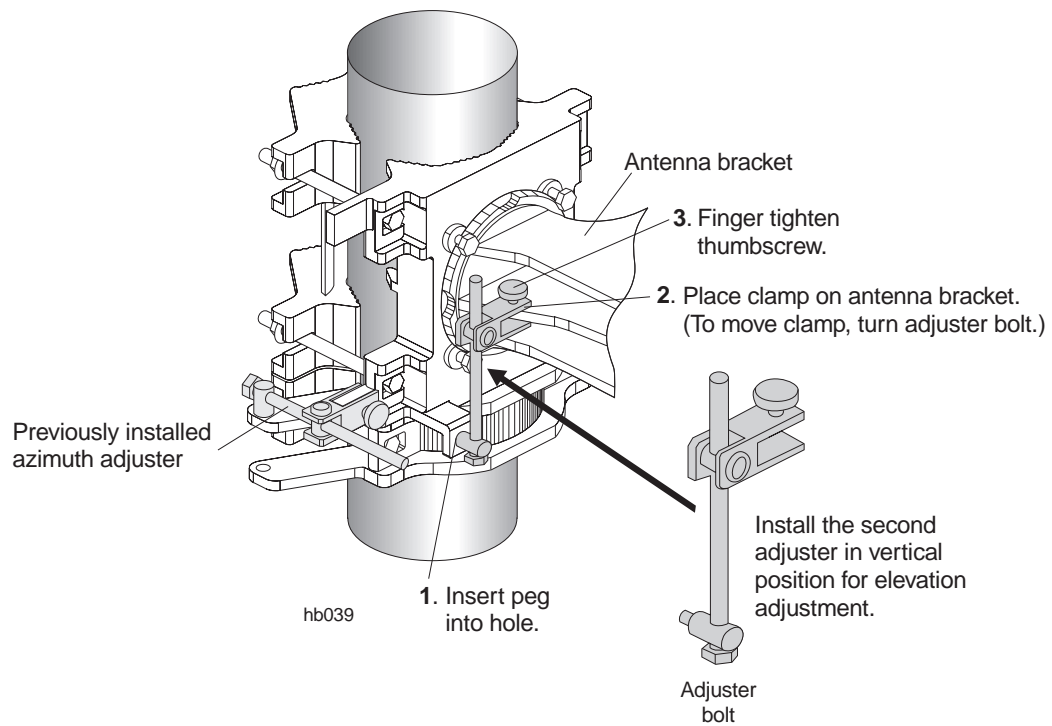

Figure 4-19 Installing the second adjuster, for elevation adjustment
For fine elevation adjustment (next subsection), install the second azimuth/elevation adjuster as shown in figure 4-19.
2. Use a wrench to turn the adjuster bolt on the elevation adjuster (figure 4-19) until the antenna is set to the specified elevation angle, as indicated by the inclinometer.